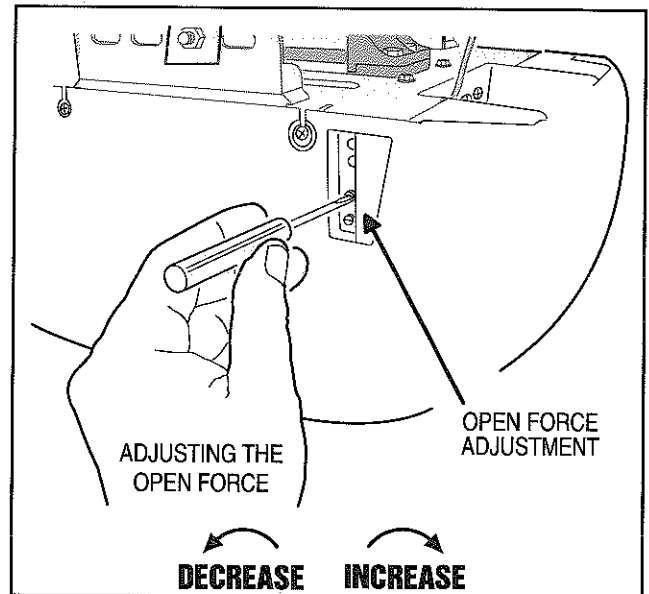

Figure 3 Open force adjustment
- A** Locate the OPEN FORCE adjustment screw (**Figure 3**).